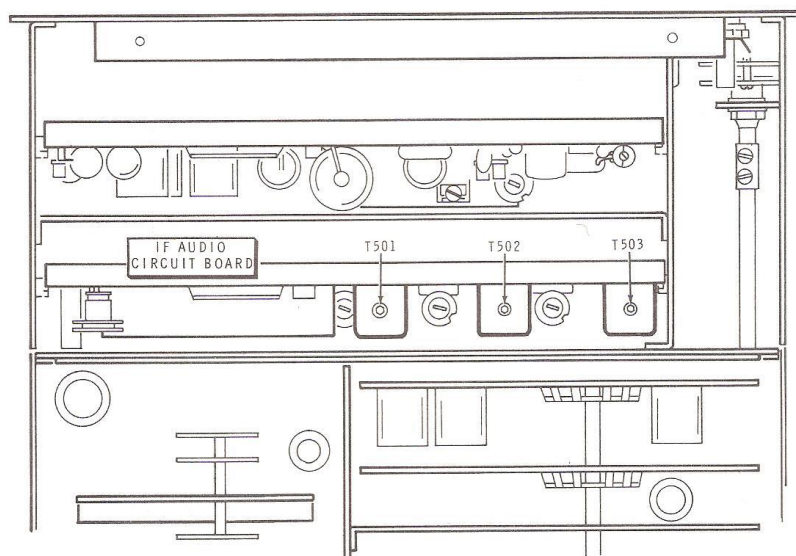

Figure 15
- () Refer to Figure 15 and adjust IF transformers T501, T502, and T503 for a maximum S-meter reading with the large alignment tool.